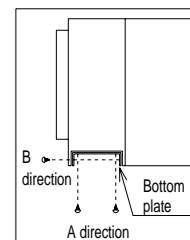

Fig.4
- (1) Remove the bottom plate screws (refer to drawing below) on the filter box. (Fig. 4)